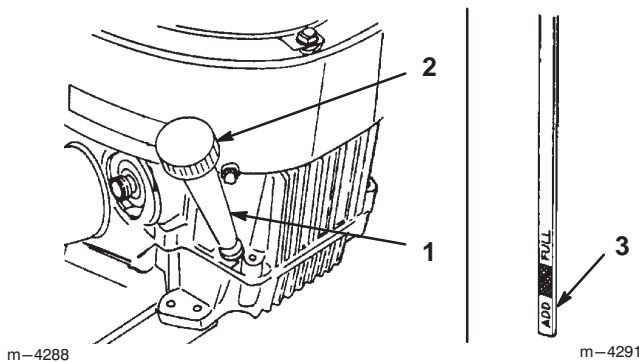

Figure 17
2. Clean around the oil dipstick (Fig. 17) so that dirt cannot fall into the filler hole and damage the engine.
3. Unscrew the oil dipstick and wipe the metal end clean (Fig. 17).
4. Slide the oil dipstick fully into the filler tube, but do not thread it onto the tube (Fig. 17). Pull the dipstick out and look at the metal end. If the oil level is low, slowly pour only enough oil into the filler tube to raise the level to the "FULL" mark on the dipstick.
8. Clean around the oil dipstick and unscrew the cap (Fig. 17).
9. Slowly pour approximately 80% of the specified oil into the filler cap (Fig. 17). Refer to Servicing the Engine Oil, page 23.